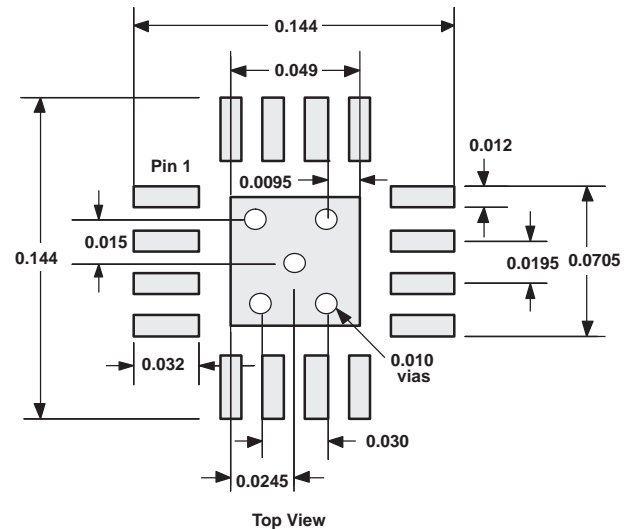

Figure 92. QFN Etch and Via Pattern
9. The THS4509 recommended PCB footprint is shown in Figure 92.